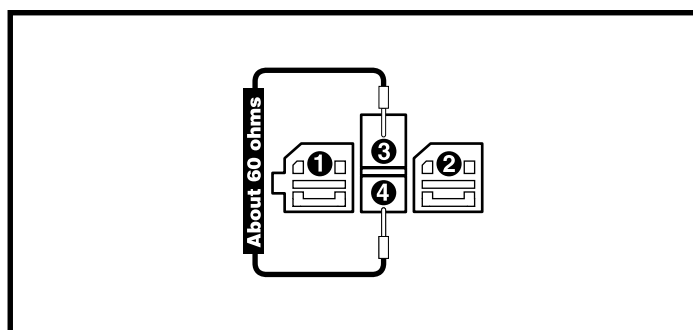
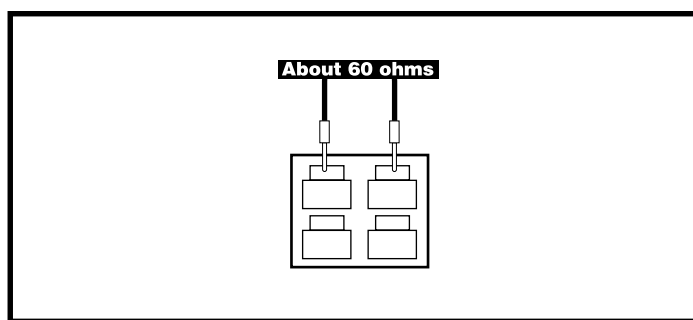

Figure 30. Connector 14b
Figure 31. Connector 9a
4. Unplug connector 14b from the power module (4). **See diagram 2.**
5. Measure resistance across pin 3 and pin 4 on connector 14b. **See figure 30.**
- *If your multimeter indicates about 60 ohms*, then replace the power module (4) and retest the system.
7. Measure resistance across pin 3 (white) and pin 4 (white) on connector 9a. **See figure 31.**
- *If your multimeter indicates about 60 ohms*, then replace the right power interface harness (14) and retest the system.